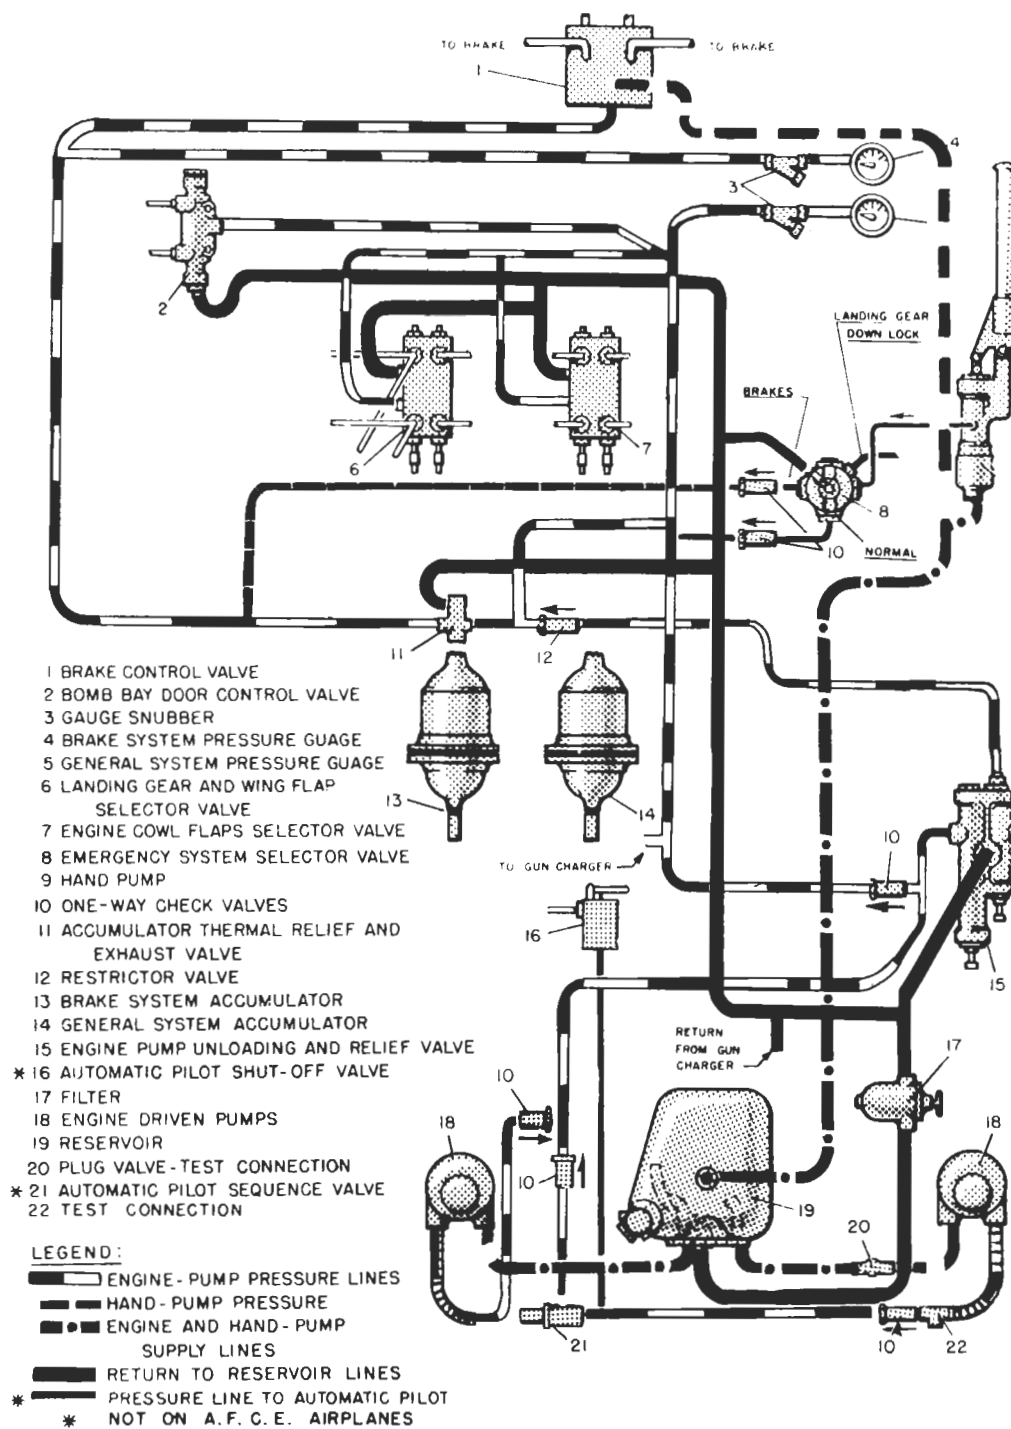

Figure 2 - Hydraulic System Lines Diagram (Power Lines System)
d. Hydraulic System. - Pressure for the system is supplied by two engine-driven pumps connected in parallel, one mounted on each engine. A hand pump for emergency operation is provided. (See figures 2, 3, and 4.)